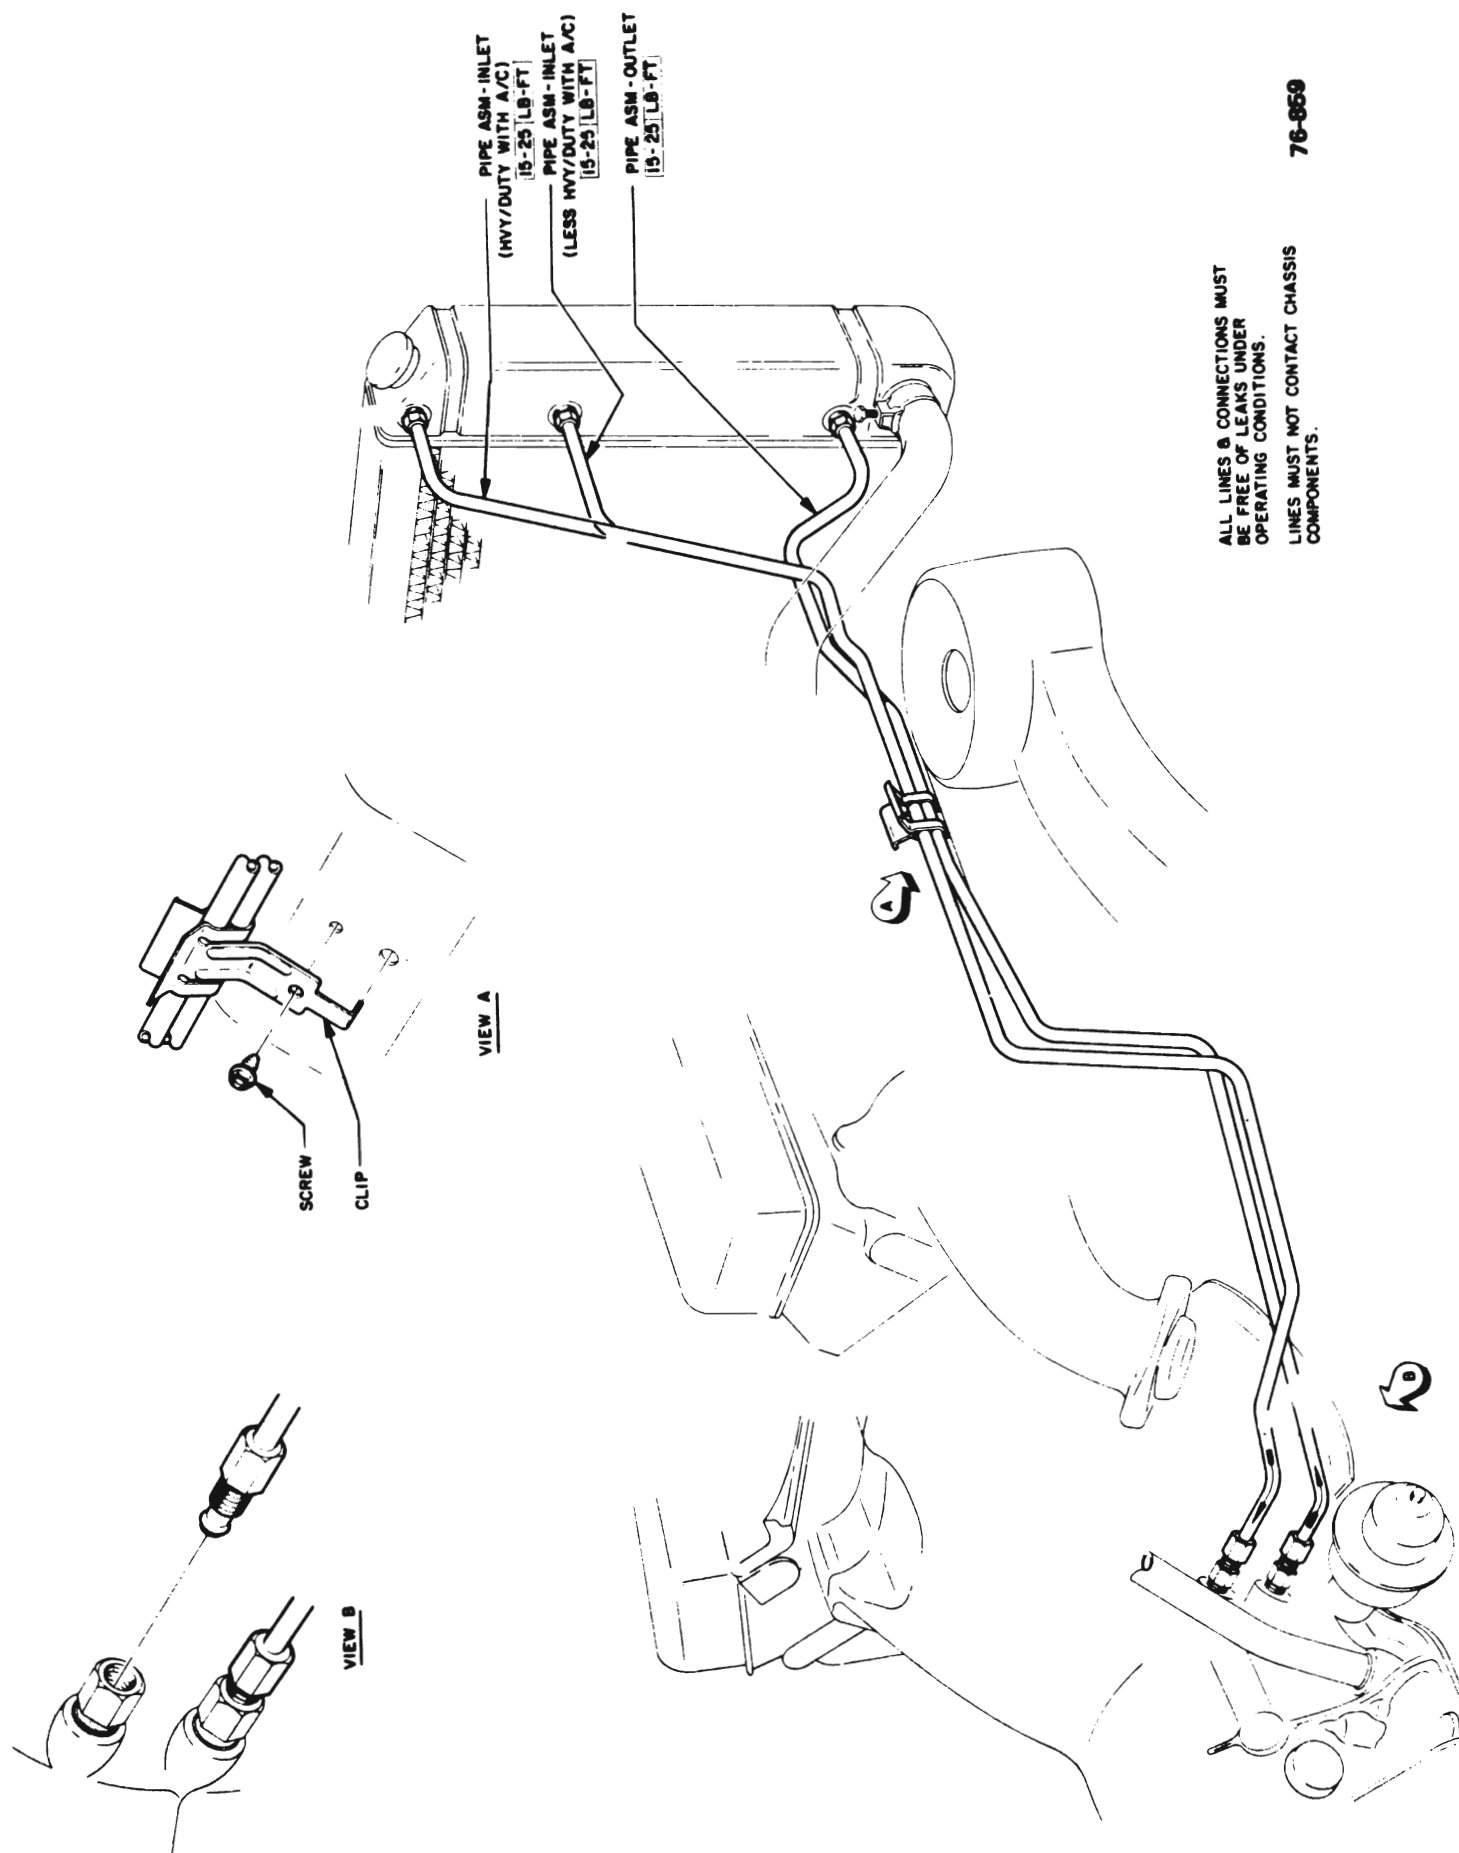

Figure 76-503 - Oil Cooler Lines
6. Loosen cooler line nuts and separate cooler lines from transmission. See Figure 76-503.
12. Install oil cooler lines to transmission. See Figure 76-503.